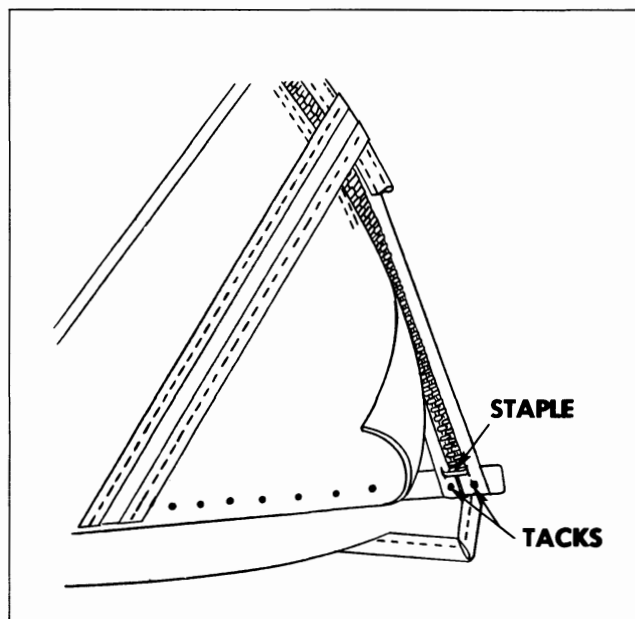

Fig. 21-40 Zipper Installation at Rear Quarter Trim Stick
11. Staple both sections of zipper tape together. Staples will aid in preventing zipper scoops from disengaging and also serve as a stop for the slide fastener. (Fig. 21-40).
13. Tack zipper tape to rear quarter trim stick (Fig. 21-40). Zipper tape should not be pulled taut as zipper teeth may show through top material after top has been properly installed.